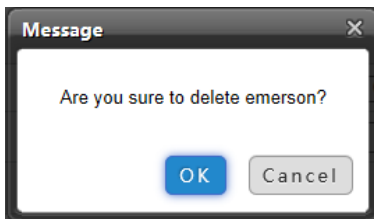

Figure 3-70 Confirming dialog box
2. Click the **Delete** button to pop up the confirming dialog box, as shown in Figure 3-70.